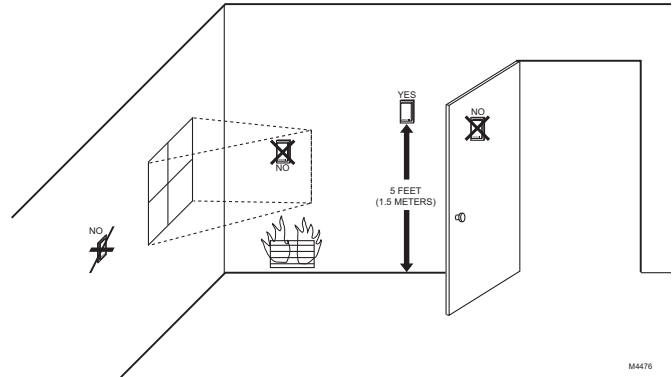

Fig. 25. Typical location for C7189U1005 Indoor Sensor.
- Choose a location (see Fig. 25) for mounting the sensor on an inside wall about 5 ft (1.5m) above the floor.
- Make sure there is good air circulation at average temperature at the chosen location. Avoid the following locations because they can introduce errors in sensor measurements. See Fig. 25.